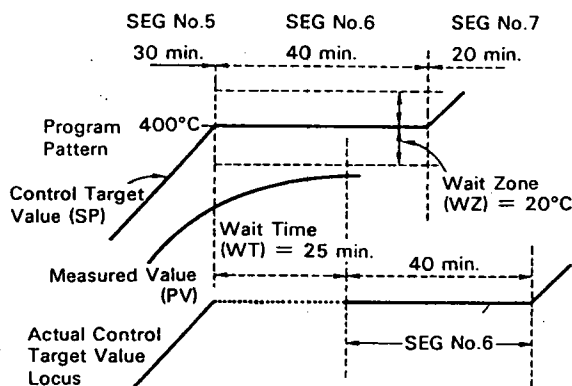

Figure 5.3 PV Does not Come within the Wait Zone in the Wait time
Even if the wait time has elapsed after entering in the wait action, the measured value (PV) does not enter the wait zone. Thus, the program proceeds to the next segment. If  $PV > SP + WZ$ , the case is the same (Figure 5.3).